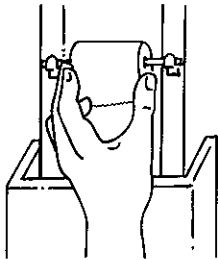

Figure 3.21 Placing a new paper roll into the retaining clips.
5. Set the rod in the metal retaining clips (Fig. 3.21).